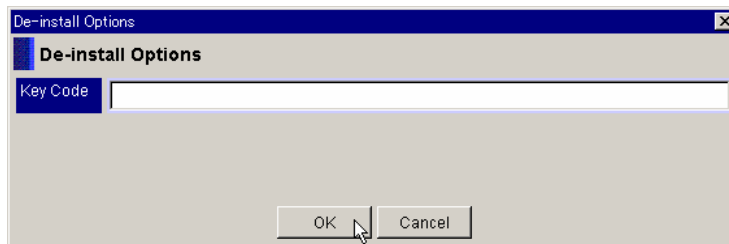

Figure 4.34 De-install Options Dialog Box
2. Click **De-install** to display the **De-install Options** dialog box (see Figure 4.34).